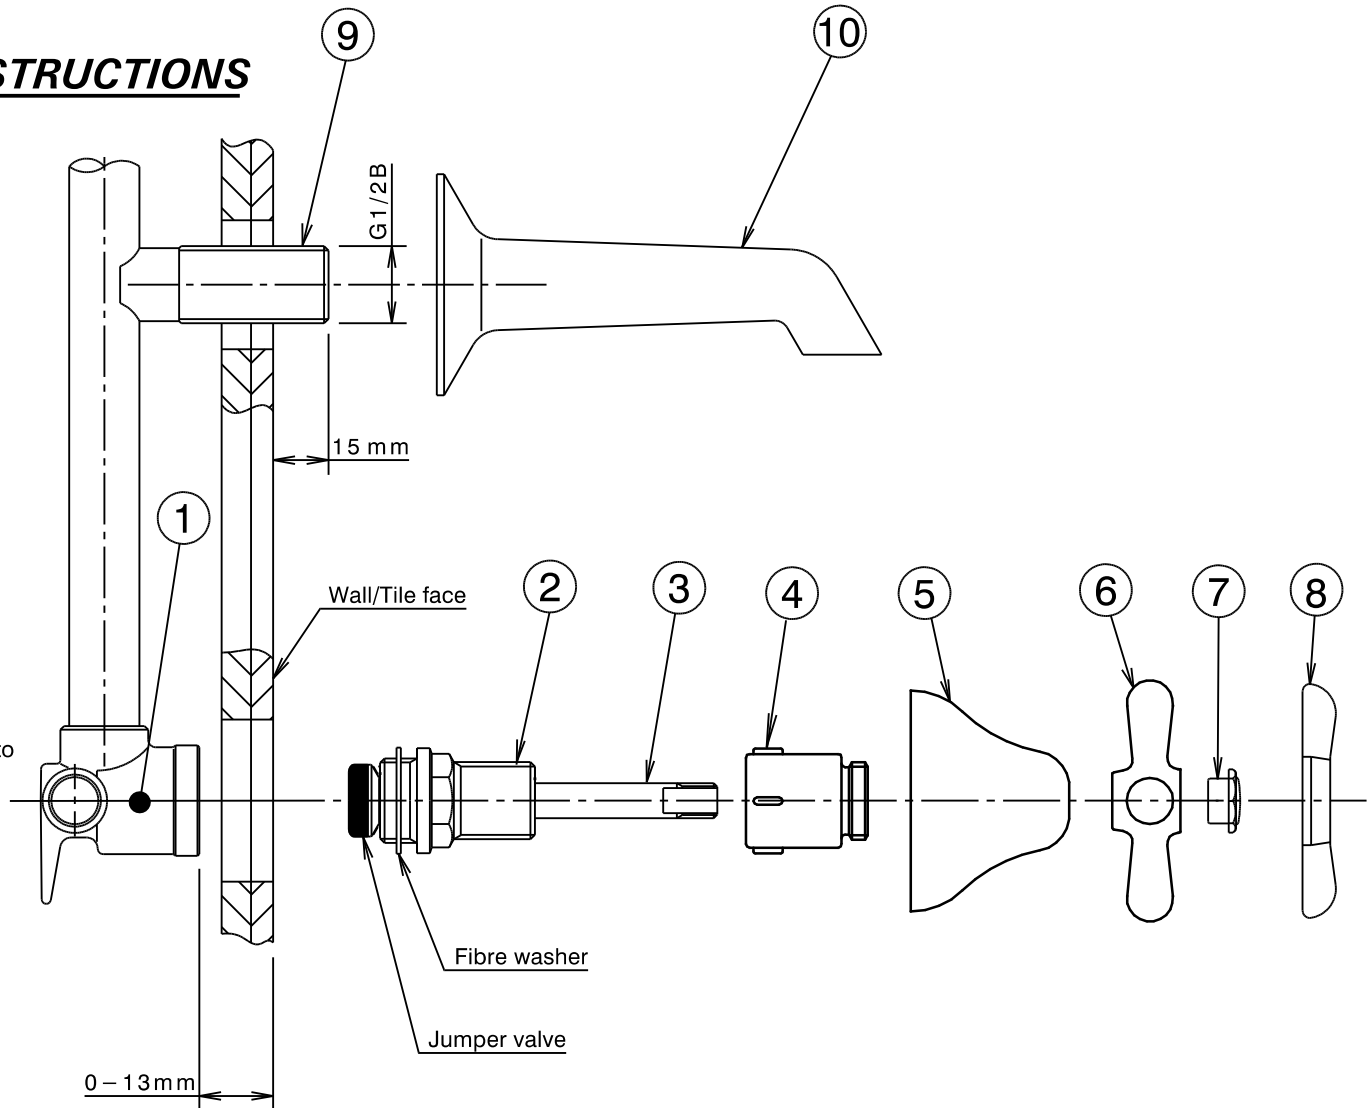

Fig. 1
- 1) Check that the face of the recess tap body (1) is between 0–13mm from the wall/tile face, as shown in Fig.1
- 2) Check seats in recess tap bodies (1) are in good condition and free of foreign materials. Reseat if required.